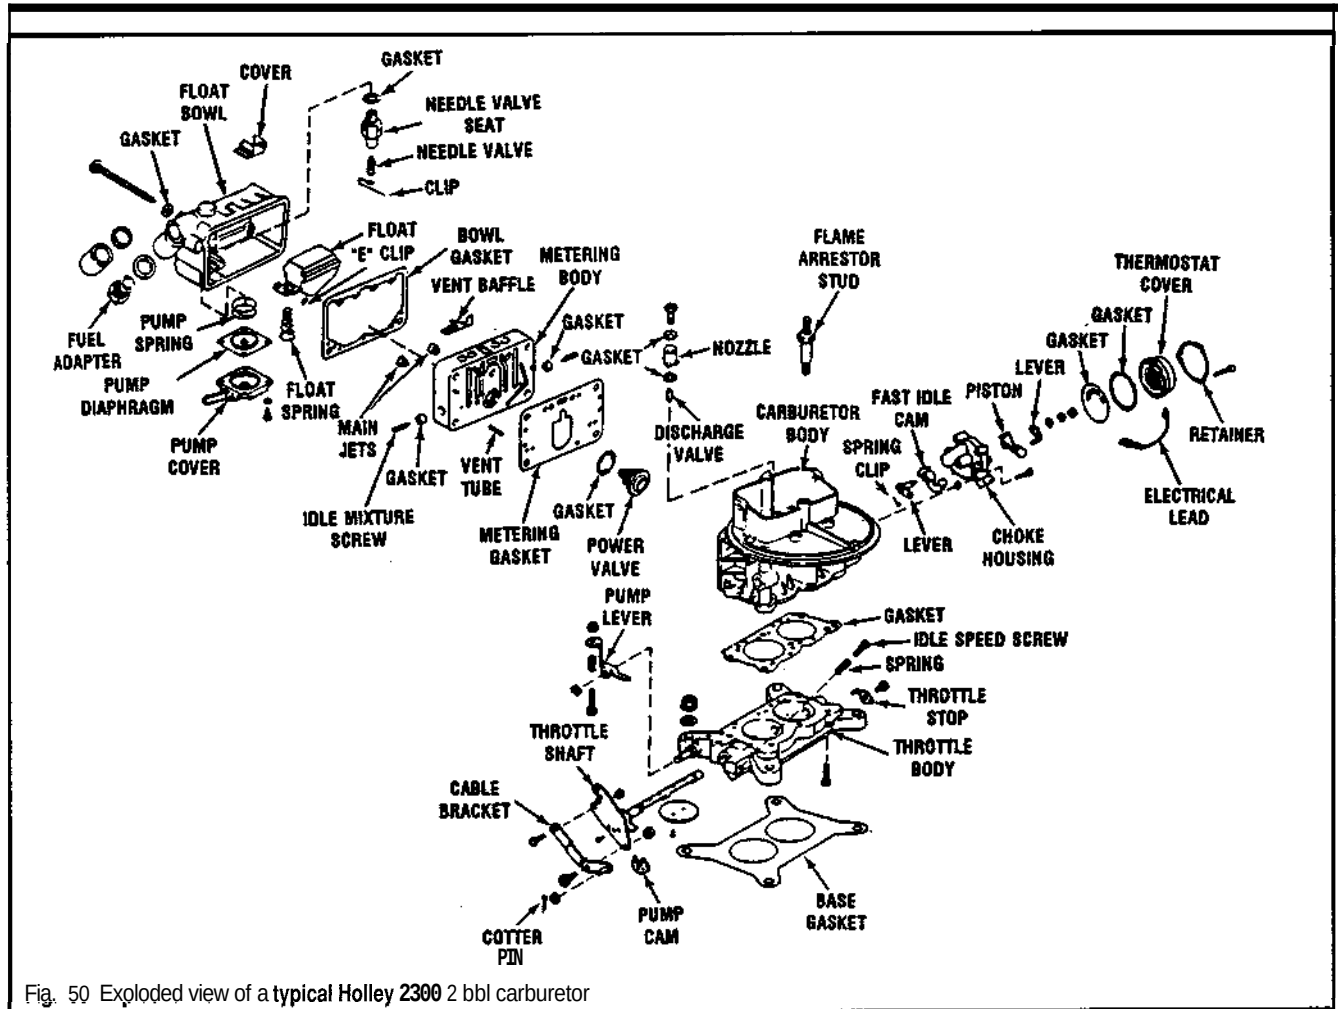

Fig. 50 Exploded view of a typical Holley 2300 2 bbl carburetor
- ◆ See Figures 50 thru 64
4 See Figures 50 thru 64 and 65